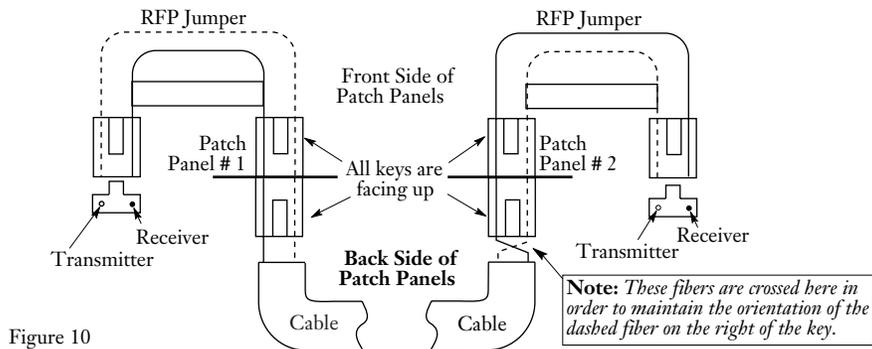

Figure 10
3.3 When you look at this wiring convention in a system, polarity is not maintained when standard RFP patch cords are used. Note that the transmitter on one end routes to the transmitter on the other end. Figure 10 illustrates a system that uses the CFP wiring technique.